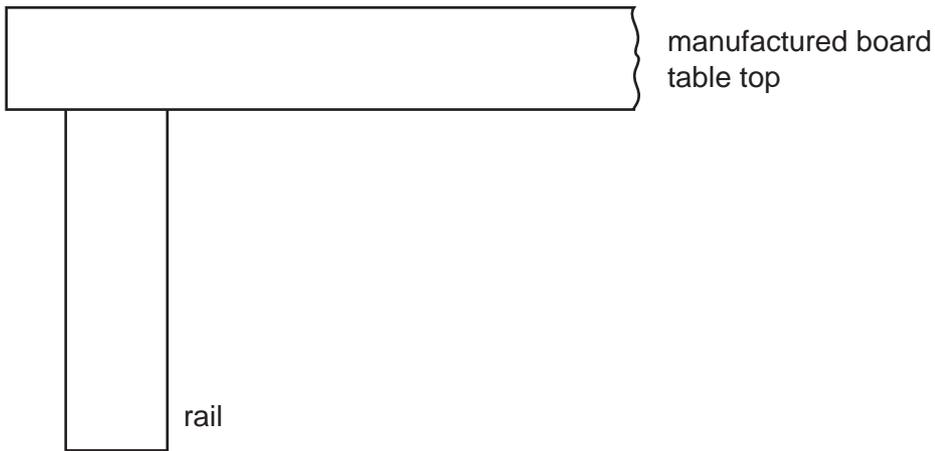

Fig. 3
- 4 Complete Fig. 3 by showing how the rail could be screwed to the table top. The heads of the screws must not be seen.